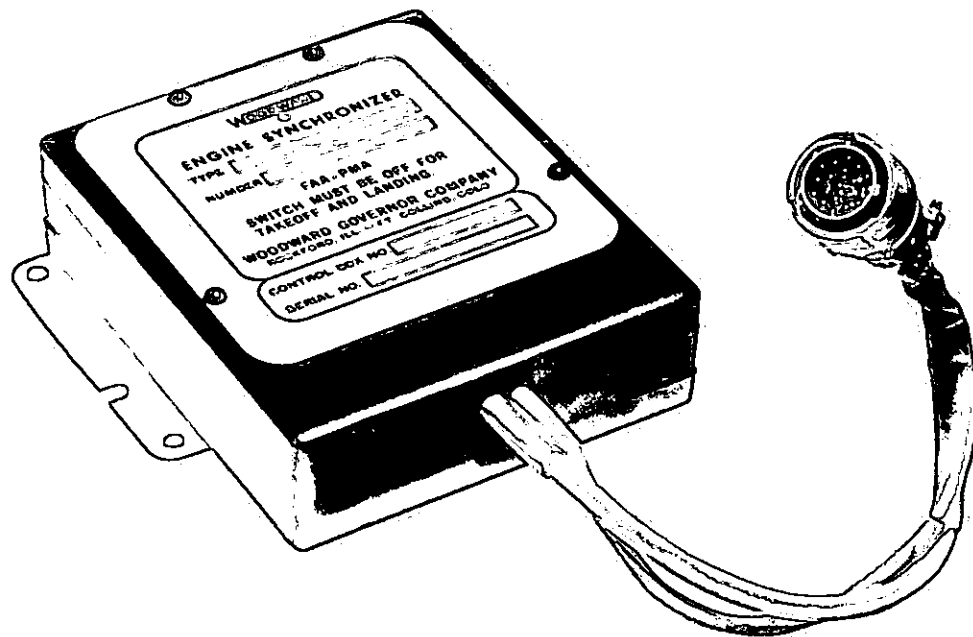

Figure 1. Synchronizer Control Box
**EQUIPMENT:** The synchronizing system consists of a synchronizer control box, a speed setting actuator, an adjustable rod end trimming assembly, a flexible rotary shaft assembly and electrical connectors and cables. The control box (figure 1), which is mounted conveniently in the cabin area, contains all the transistorized circuits, and operates on 28-volt d-c power, drawing less than 1 amp. The box has a remote "OFF/ON" switch that will select fan or turbine synchronization. This is the only control required.